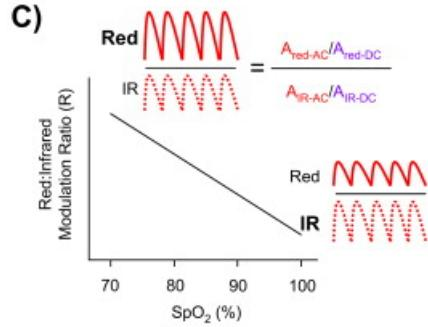

Figure 2: Calculation of R ratio (1)
The amount of light that is transmitted(or not absorbed) is captured by a photodiode which in turn feeds this signal to an ADC for it to process and give to the processor. The ratio of IR light and red light measurements (representing oxygenated and deoxygenated blood respectively) also called as R ratio ($R = (A_{red,AC}/A_{red,DC})/(A_{IR,AC}/A_{IR,DC})$) Figure 2 is what is used for the calculation of blood oxygen level (1). The ratio is converted to SPO₂ measurements by the processor using a look-up table based on the Beer-Lambert Law(1).